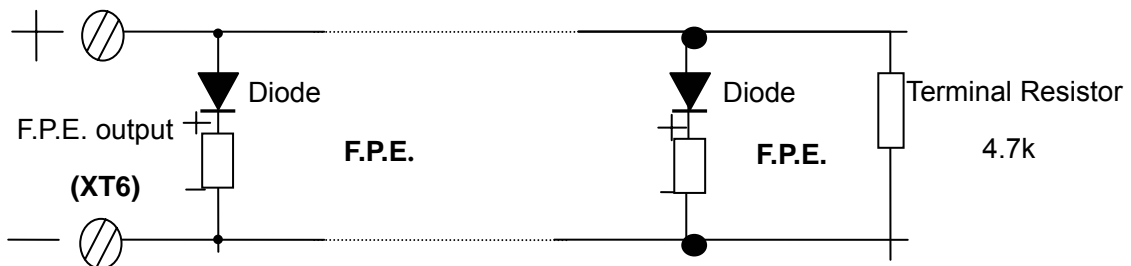

Fig. 4.5
F.P.E. output is shown in Fig. 4.5.